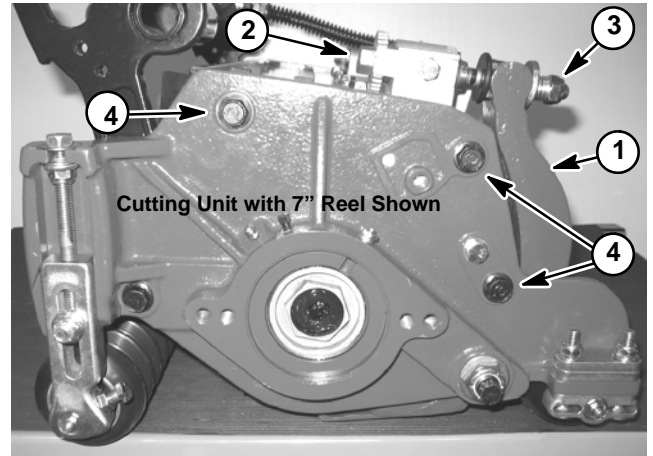

Figure 13
4. Loosen, but do not remove, shoulder bolts that secure the side plate to the frame opposite the side that is not level (Fig. 13).